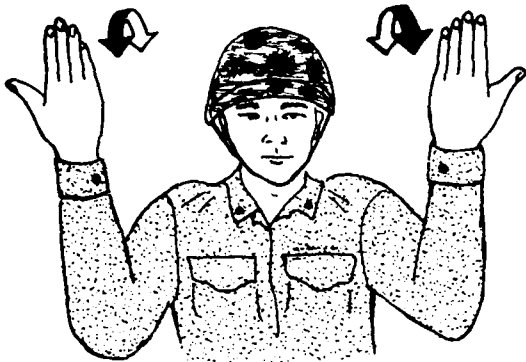

Figure 8-21.—To direct helicopter forward.
1. To Direct Helicopter Forward. Extend your arms and hands above your head with your palms facing away from the helicopter. Move your hands in a manner that simulates a pulling motion. (See fig. 8-21.)